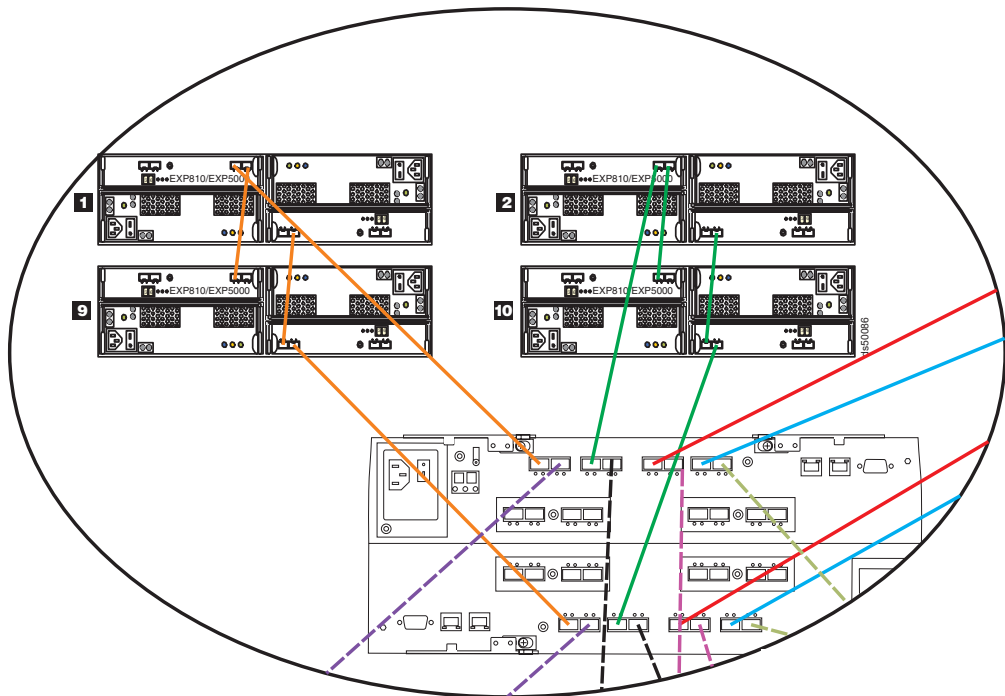

Figure 56. One DS5100 or DS5300 and sixteen EXP5000 storage expansion enclosures
Figure 56 shows the cabling scheme for one DS5100 or DS5300 and sixteen EXP5000 storage expansion enclosures. The figure shows only a cross-section of the cabling scheme. Each redundant pair of drive channel ports in this configuration has two EXP5000 expansion enclosures connected in a cascading scheme.
- a. Add the ninth EXP5000 after the first EXP5000 (see 9 in Figure 56.)
- b. Connect port 1A on the left ESM of the first EXP5000 (1) to port 1B on the left ESM of the ninth EXP5000 (9).
- c. Connect port 1B on the right ESM of the first EXP5000 (1) to port 1A on the right ESM of the ninth EXP5000 (9).
- d. Move the connection between port 1B on the right ESM of the first EXP5000 (1) and port 1 of drive channel 5 on the DS5100 or DS5300 to port 1B of the ninth EXP5000.
3. Repeat 2 on page 88 to connect the remainder of the EXP5000s to port 1B on the right ESM of the ninth EXP5000 (9).